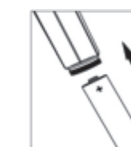

fig. 11
3. Replace with two new AA alkaline batteries. Ensure both batteries' positive ends point to the head as shown in fig.11.